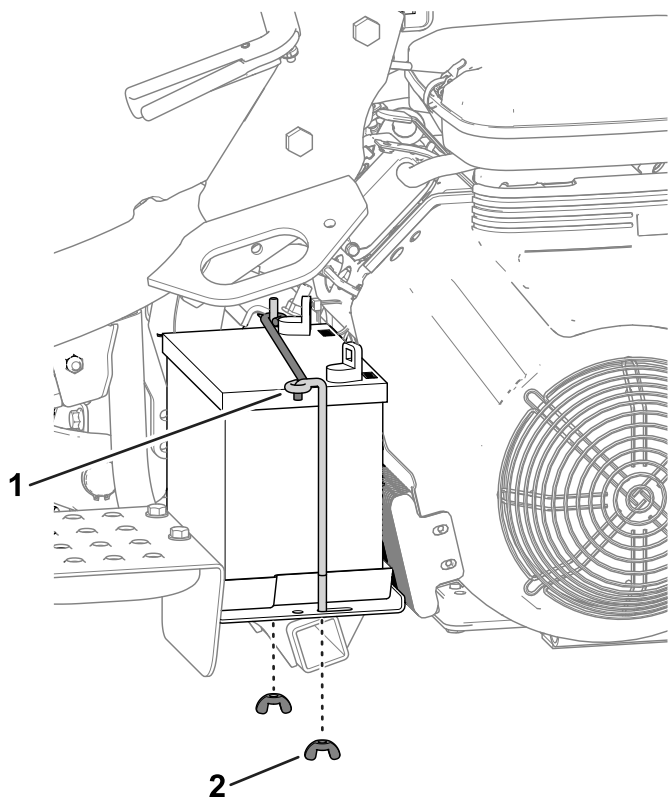

Figure 39
2. Remove the wing nuts and rods that secure the battery to the platform (Figure 39) and lift out the battery.
5. Place the battery on the battery tray and secure it with the previously removed rods and fasteners (Figure 39).